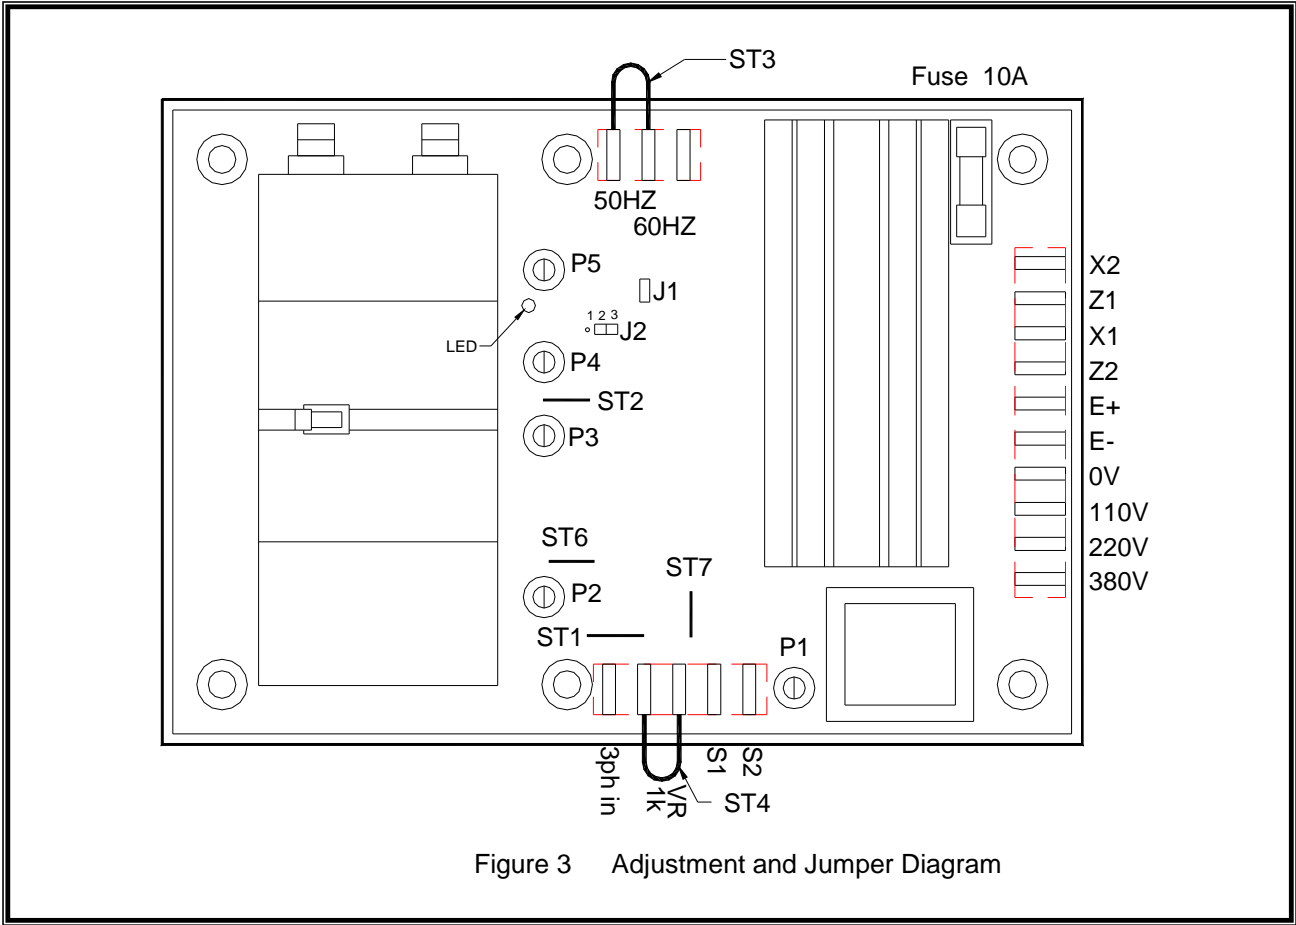

Figure 3 Adjustment and Jumper Diagram
1. When excitation power is three phase input, connect X2, X1, Z2. See Figure 3.